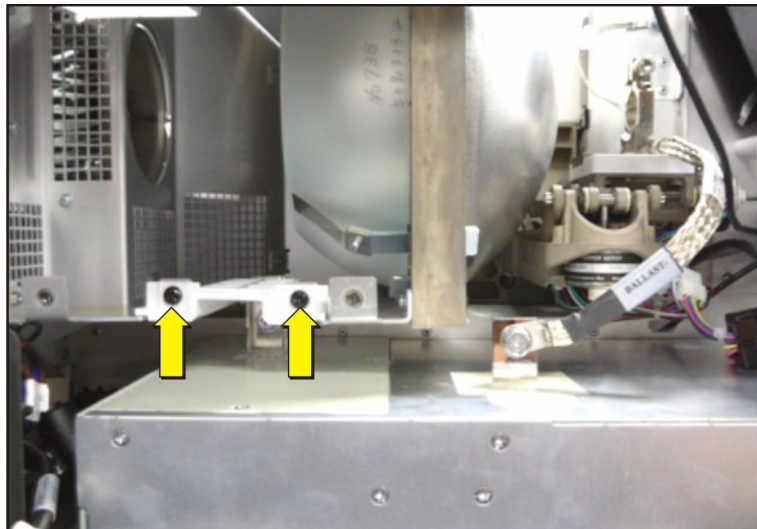

Figure 5-25 Remove Anode Cover
7. Loosen the two captive screws securing the lamp anode cover and remove the cover (**Figure 5-25**).